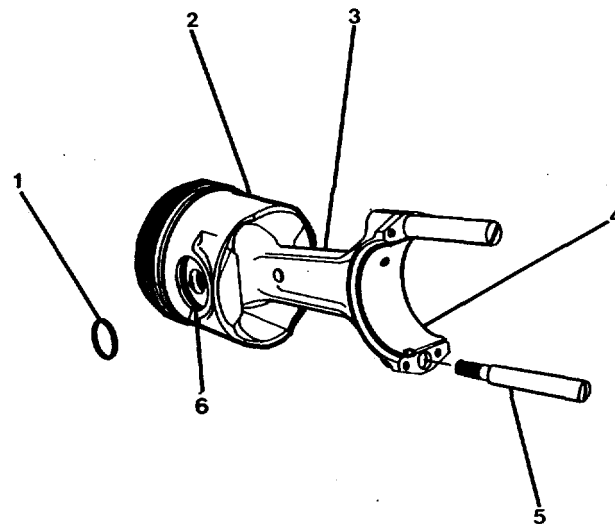

FIGURE 3-25. *Piston and Connecting Rod Assembly.*
- (6) Remove the connecting rod and piston assembly.
- (7) Remove connecting rod guide pins (7) and upper rod bearings (4, FIG. 3-25).
- (1) Install one retaining ring (6, FIG. 3-25).
- (10) Push piston into liner until the connecting rod touches the crank shaft journal. Remove the connecting rod guide pins (5, FIG. 3-25).